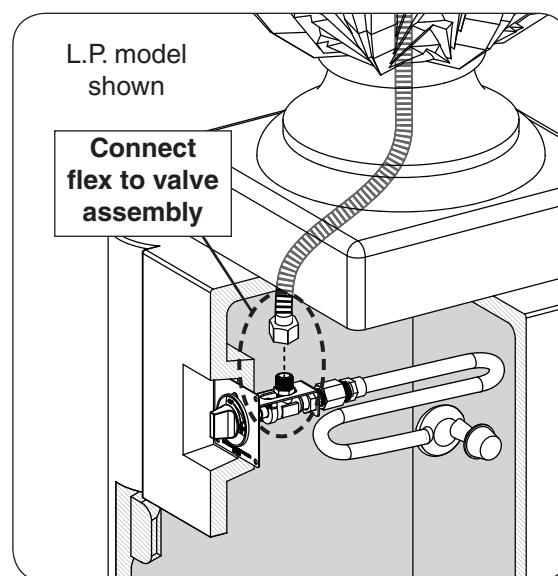

Fig. 16-2 Connect flex to valve
3. Locate the flex connector (coming from the inside of the urn) and route it to the connection found on the valve assembly (inside the pedestal base) and connect. Tighten Securely. See Fig. 16-2.